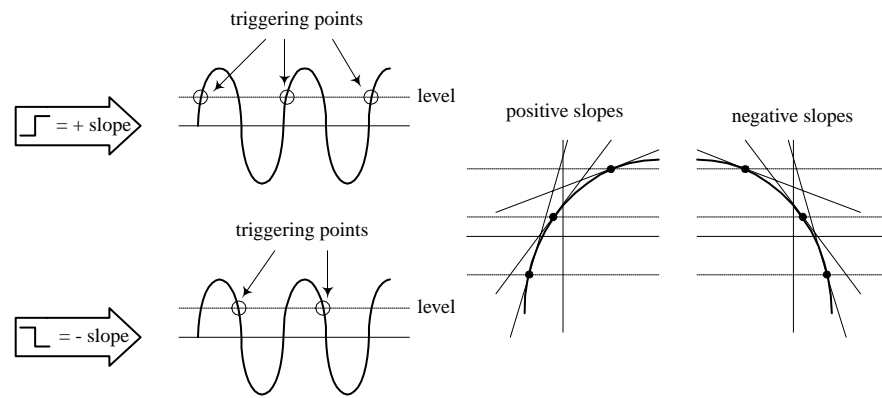

FIGURE 14.30
- SLOPE button.** Selects the point at which a scope will trigger. When positive slope is selected, the scope will only begin a sweep when the signal voltage crosses the LEVEL voltage during a positive sloping rise. (LEVEL voltage is explained a few lines down.) A negative slope setting initiates a sweep to occur when the signal crosses the LEVEL voltage during a negative sloping fall (see Fig. 14.30).